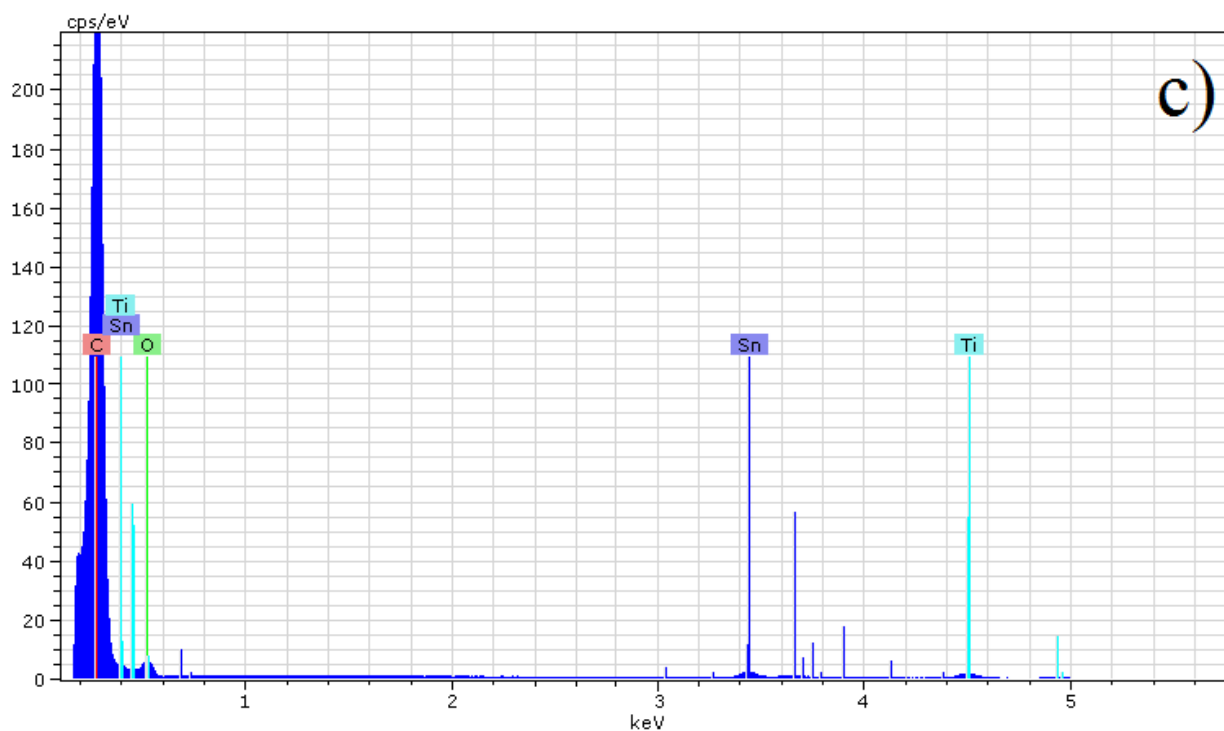

Figure S3: EDS spectra of a) Binder Free carbon composite (BFCC) b) PEDOT Carbon Composite (PCC) c) Binder enriched carbon composite (BCC).
Binder Free carbon composite (BFCC) (Figure S3 a): SnO₂ (Sn and O peaks) and carbon (from graphite and furnace black).
PEDOT Carbon Composite (PCC) (Figure S3 b): Same materials as in BFCC, but added PEDOT that gives rise to the additional sulfur peak (S).
Binder enriched carbon composite (BCC) (Figure S3 c): Same materials as in BFCC, but added TiO₂ that gives rise to the additional Ti peak.